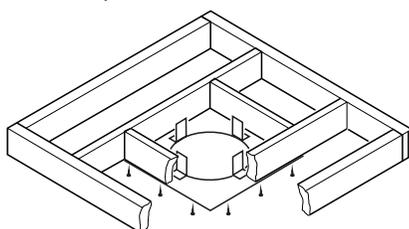

Figure 31 - Installing Firestop
- Cut a 10" square hole in the ceiling using the locating hole as a center point. The opening should be framed to 10"x10" (254mm x 254mm) inside dimensions, as shown in Figure 22 on page 12 using framing lumber the same size as the ceiling joists. If the area above the ceiling is an insulated ceiling or a room, nail firestop from the top side. This prevents loose insulation from falling into the required clearance space. Otherwise, install firestop below the framed hole. The firestop should be installed with no less than three nails per side (see Figure 31, page 15).